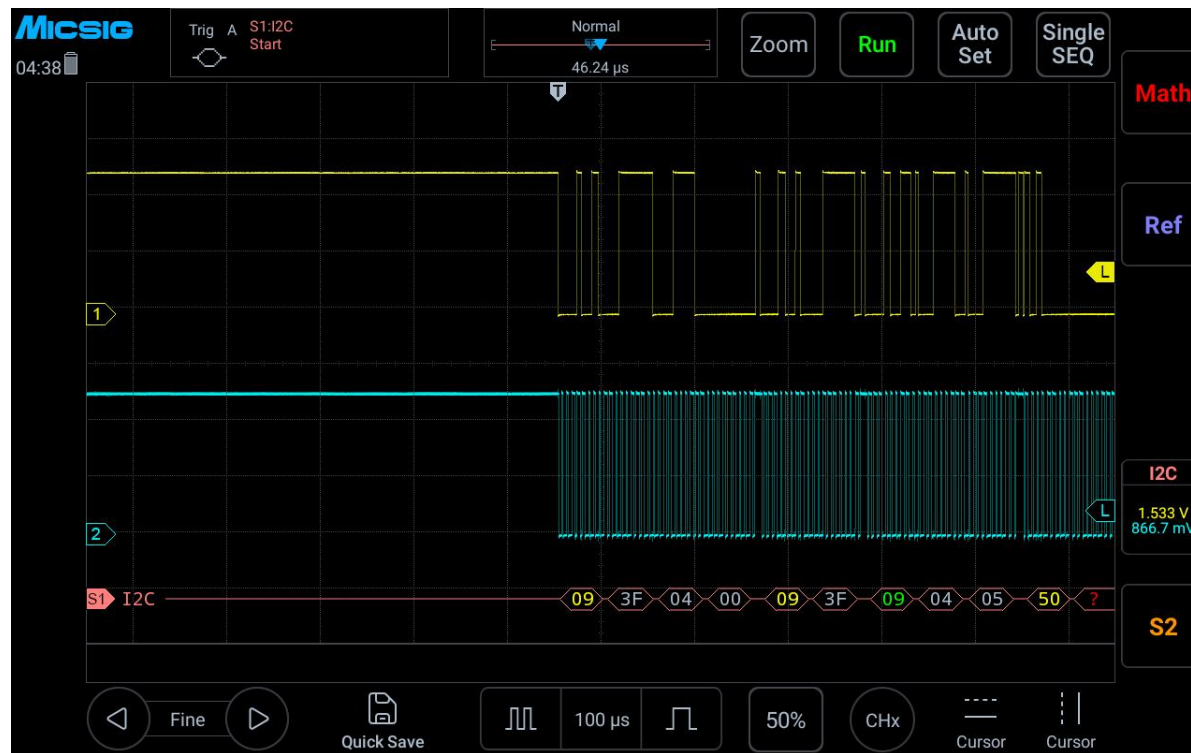

Figure 13-24 I²C Graphic Interface
- (1) Tap S1 to open the decode channel, and click S1 again to open the bus configuration menu;
- (2) Select the bus type as “I2C”, open the bus setting menu, and select the clock SCL as Ch2 channel;
- (3) Open the trigger mode configuration menu and click “Start Condition” on the touch screen.
- (4) Set the threshold level of two channels according to signal amplitude; I2C trigger graphic interface is shown in Figure 13-24: